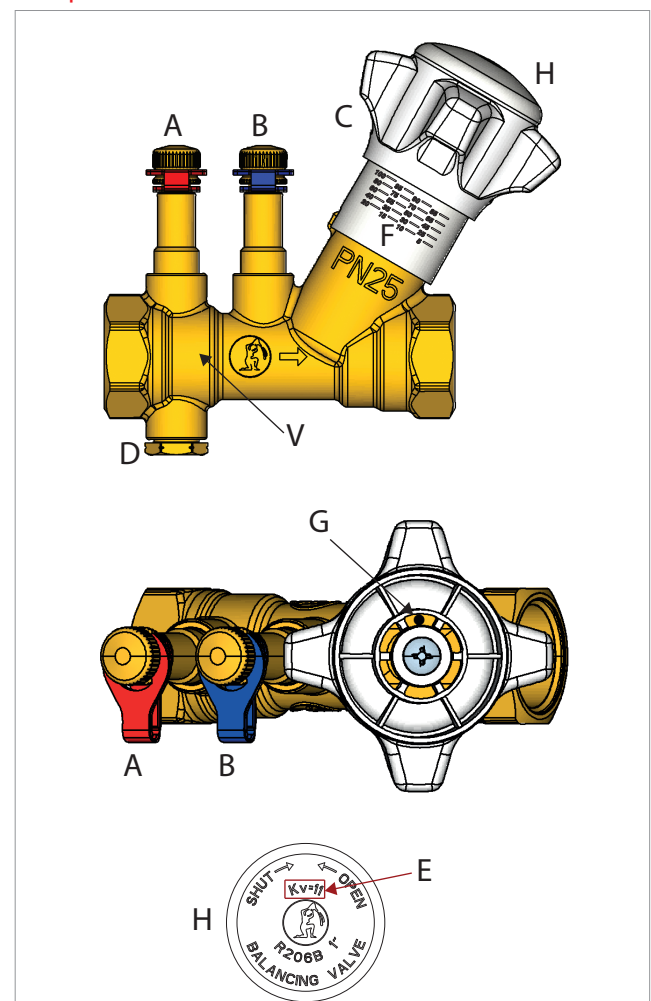
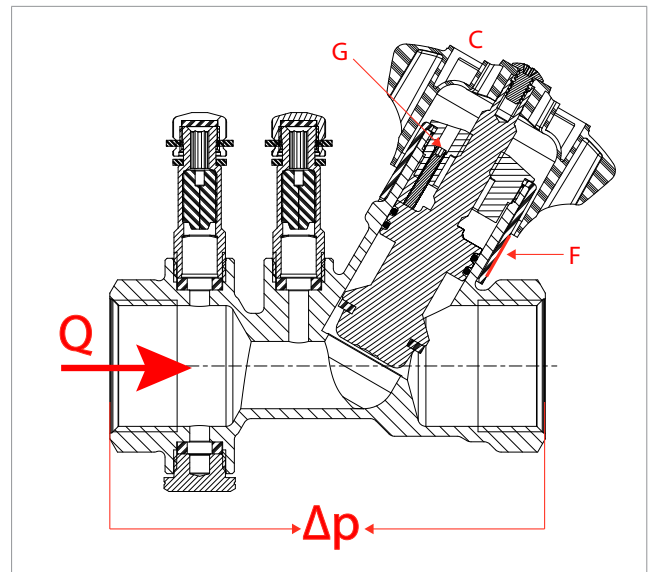

Figure 1
Figure 2
R206B valves are equipped with a mechanism of mechanical memory of the opening (pre-regulation). This mechanism works by limiting the handle stroke (ref. C – fig.2) through a locking screw (ref.G – fig.2).
- Make the regulation of the R206B valve by means of the handle (ref.C-fig.2), on the regulation scale (ref. F – fig.1);
- Screw clockwise until it stops the locking screw of the pre-regulation (ref.G-fig.2) by using an Allen key of: